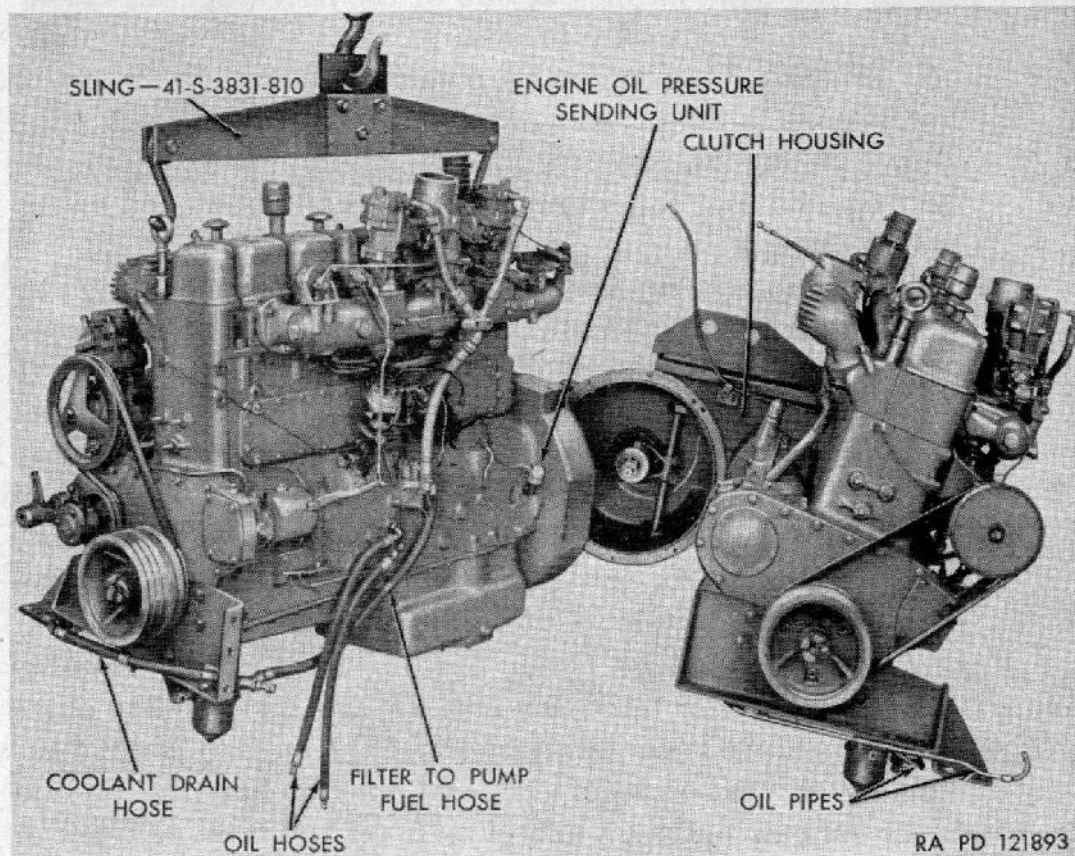

Figure 45. Separating left engine from right engine.
- (2) Raise engines so that fuel filters will clear bottom of hull and move them back slowly, turning and raising engine to miss parts attached to sides of the hull until they can be hoisted out of hull.
m. Lift One Engine From Clutch Housing (fig. 45).
- (2) Remove two cap screws from fan drive shaft support. Attach sling 41-S-3831-810 to lifter eye of engine to be removed, and take weight of engine on chain. Remove six nuts and lift fan drive shaft rear support off studs; then remove the three bolts that connect the engine rear supports and the cap screws that attach clutch housing to engine flywheel housing. Pull engine straight forward until it is free of clutch shaft (fig. 45). If second engine is to be removed from clutch housing, suspend engine with sling and hoist, then block up under clutch housing, disconnect clutch housing from engine, and lift engine away from it. Remove the fuel filters (par. 108). Remove four cap screws from each engine support which attaches support to the engine if replacement engines are to be installed.
- (1) *Install clutches and engine supports.* If installing replacement engines, the clutch, fuel filters, fuel filter hoses, coolant drain hose, rear support, and oil pipes must first be installed on each engine. Install the two engine rear supports to the engine with four cap screws. Install fuel filters (par. 108). Install the fuel pump lines. Install clutches on flywheels as explained in paragraph 179.
- (2) *Assemble engines and clutch housing (fig. 45).* Block up one end of clutch housing so the engine can be held straight up and holes for cap screws in clutch housing will line up with holes in engine flywheel housing. Raise engine with lifting sling 41-S-3831-810 so that clutch shaft is in line with splined hub of clutch, and move engine back against clutch
- (3) *Install and connect throttle linkage and hoses.* Install hose leading from fuel filter to fuel pump on each engine (fig. 45). Install and connect coolant drain hose that leads from elbow in rear support for the left engine to inlet elbow of water pump on right engine (fig. 45). Connect oil hoses